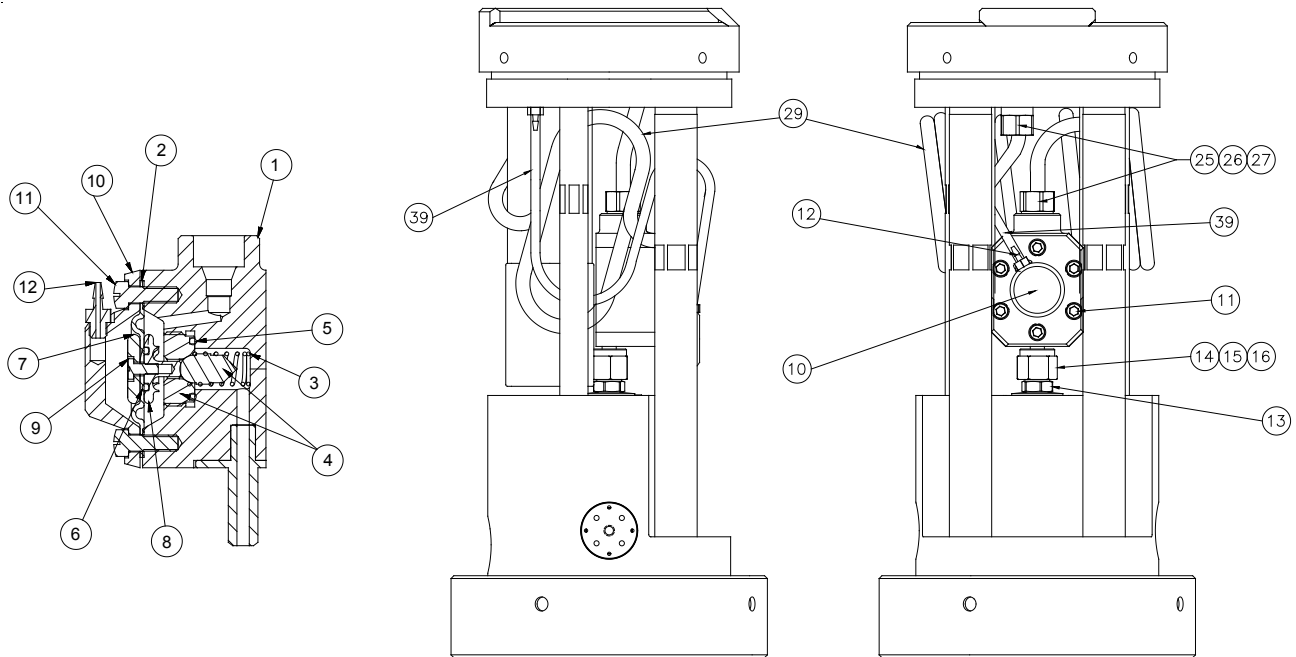

Figure 15: Fluid Regulator Assembly
(When Equipped - See Figure 15)**
9. Tighten the regulator bonnet [10] to the block assembly [1] securely with the six (6) screws [11] in an alternating 180° method. Reinstall the tube.
12. Reinstall the coiled tube [29] as shown in Figure 15; one of the coils of the tube must be wrapped around the cascade as shown. Re-attach the pilot tube [39] to the regulator bonnet.
FLUID REGULATOR ASSEMBLY - PARTS LIST (Figure 15)